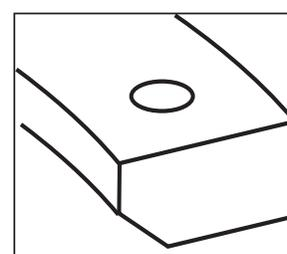

Figure 2
- B- Second compression ring has a darker, charcoal gray finish and may slight bevel along inner surface, or a hook-like relief machined on the bottom of the outer diameter. **See Figures 2 and 3.** This ring may have a dot or letter on the top side. Install in second or middle groove with dot or letter up. Bevel on the inner surface or groove on outer diameter will face down.
- 2- Plain cast ring usually goes in second groove. Plain cast type is usually a reverse torsion ring. distinguished by an inside diameter bevel on one side of ring, and a dot, letter, or oversize mark on other side. **See Figure 2.** Some second rings may have a hook shaped groove machined around the bottom of the the outer diameter. If two cast iron compression rings are supplied in a set, check to see if one has mark and bevel or hook shaped groove. These rings always go in second groove with marking up if present and bevel or groove facing down.
- 6- If ring has dot or letter and inside diameter bevel, dot or letter goes to top of piston. **See Figure 2 and 3.**